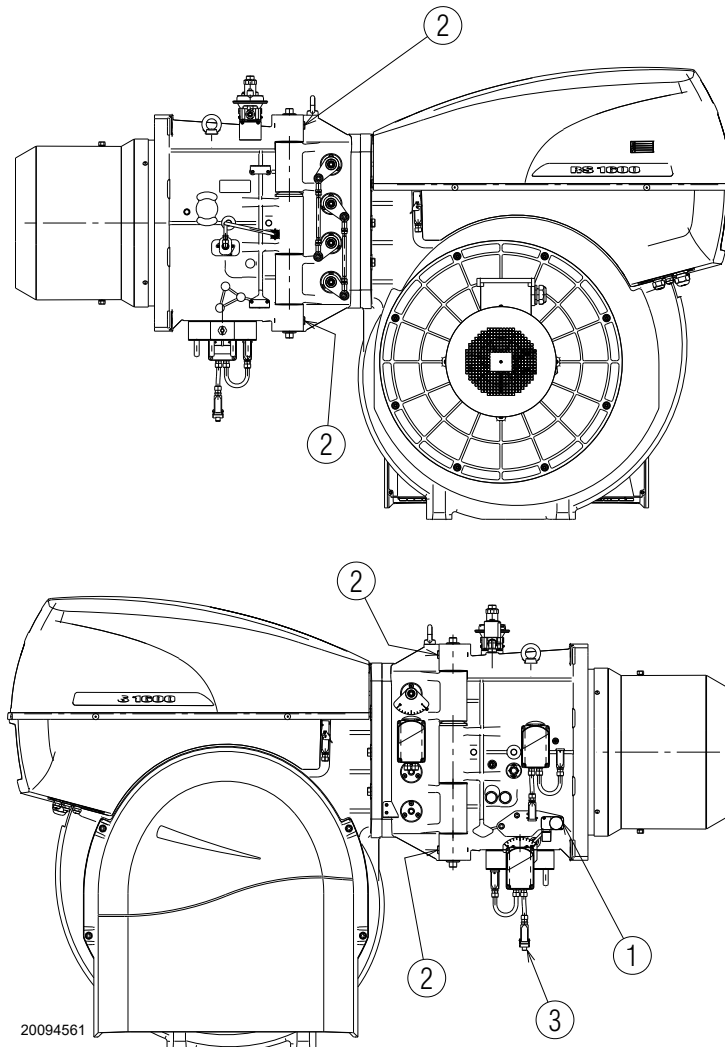

Fig. 33
- Remove the gas pressure switch connection 1)(Fig. 33).